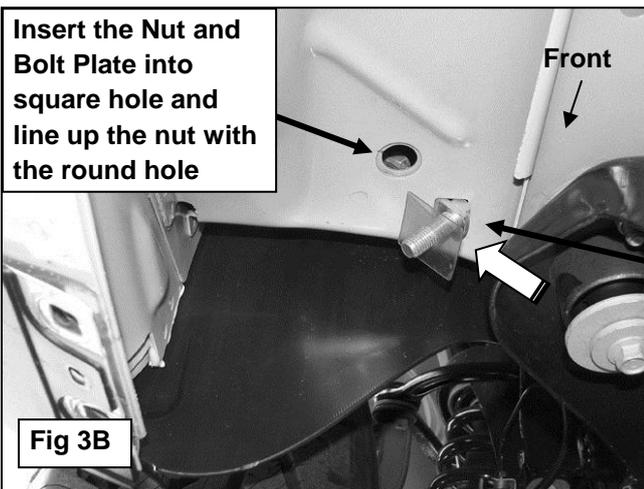

Fig 3B
3. Next, locate the round and square holes in the floor panel next to the body mount. Select (1) 12mm x 40mm x 10mm Nut and Bolt Plate and thread (1) 12mm Plastic Retainer part way onto it, **(Figure 3A)**. Insert the Nut and Bolt Plate into the square hole in the floor, **(Figure 3B)**. Line up the nut on the Nut and Bolt Plate with the round hole. **IMPORTANT:** The Plastic Retainer is designed to prevent the Bolt Plate from falling into the body cavity and to aid in mounting the Bracket. After inserting, thread the Plastic Retainer down flush against the body panel. **NOTE:** For passenger side installation, temporarily remove the ground strap if interfering with install.